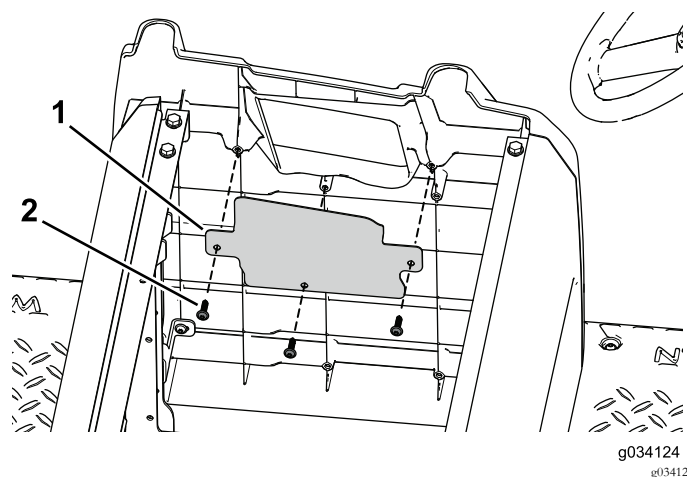

Figure 44
2. Use the 3 self-tapping screws to secure the opening cover to the side plate (Figure 44).